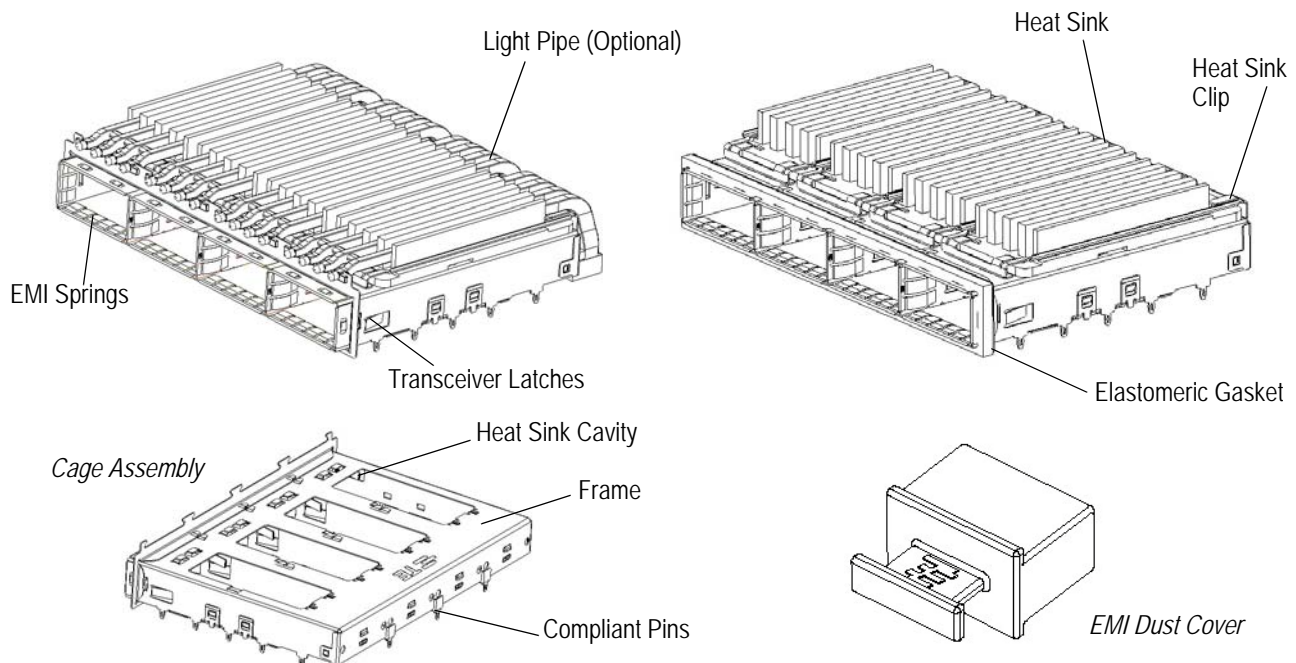

Figure 1
In applications where heat dissipation is necessary, a heat sink can be used. The heat sink must be chosen to meet the need of the specific application. A sample of available heat sinks are shown in Figure 1. These heat sinks are designed to be attached to the cage assembly using a clip. This type allows insertion and extraction of the transceiver while maintaining the necessary contact between the heat sink and the transceiver. Basic terms and features of this product are provided in Figure 1.
When corresponding with TE Connectivity (TE) personnel, use the terminology provided in this specification to facilitate your inquiries for information. Basic terms and features of this product are provided in Figure 1.